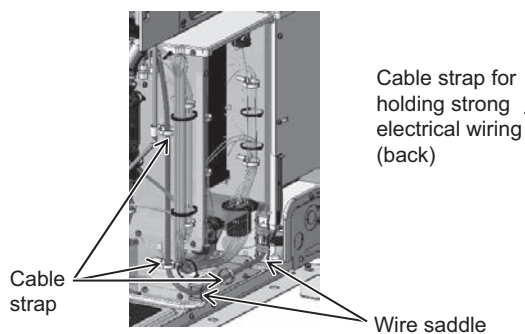

Figure 8
- (10) Loosen the three cable straps holding the motor wiring outside and at the bottom of the main control box, and remove the wire from the two wire saddles. (See Figure 8.)